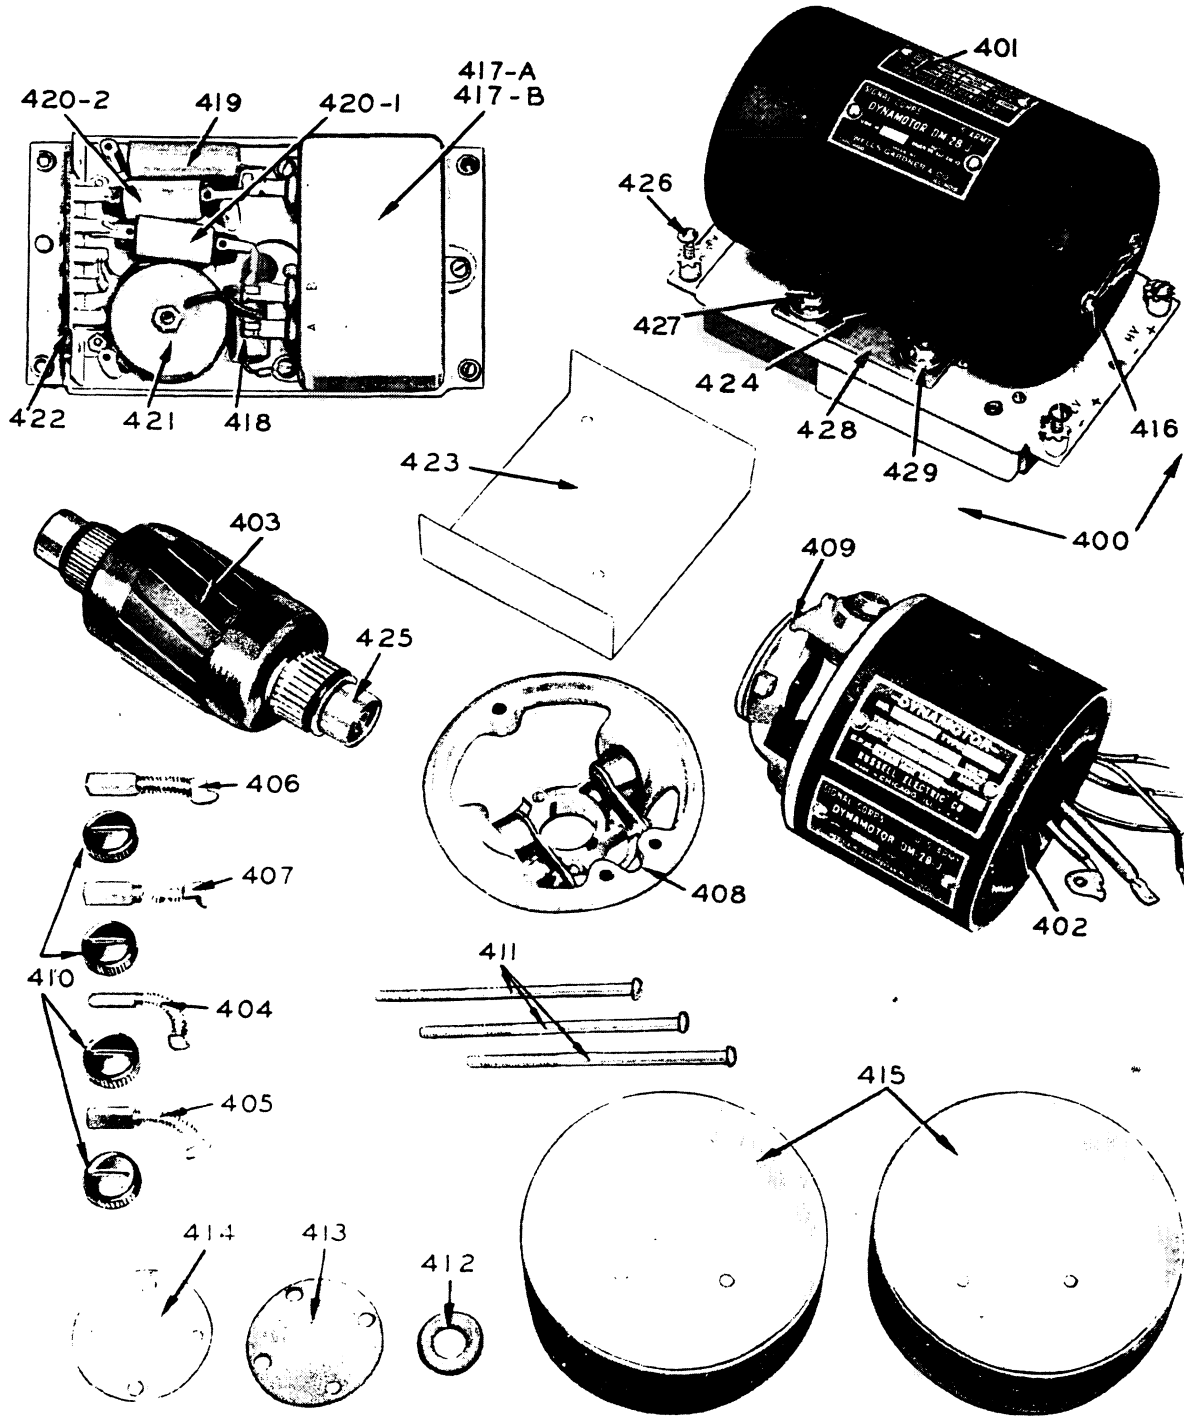

Figure 8 — Dynamotor DM-28-J and Filter
*a.* REMOVAL FROM CHASSIS.—The dynamotor and filter assembly (Figure 8, reference 400) may be removed easily from the receiver chassis by repeating the following steps in the order given:
(1) Loosen two thumbscrews 299 on the front panel, and remove the chassis from the cabinet.
(2) Loosen the five screws on the dynamotor terminal strip 422, and withdraw the five leads with spade terminals from under them. Retighten the five screws partially in order that they will clear the chassis when the dynamotor is removed.
(3) Push the left (from front of chassis) thumbscrew rod stop spring towards the end plate with a screwdriver, and withdraw thumbscrew rod 299 until the second stop position is reached.
(4) Loosen the four captive screws 426 which fasten the dynamotor to the chassis, and lift the dynamotor vertically from the receiver.